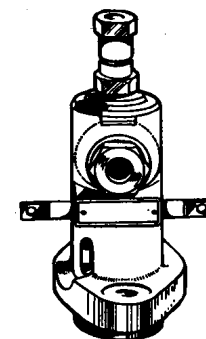

Fig. 6A. Type BPF1A../03
2. BPF1A../03. Horizontal flange with its long axis at right angles to control rod—fig. 6A.
2. BPF1B../03. Arranged as for BPF1A../03—fig. 6A.